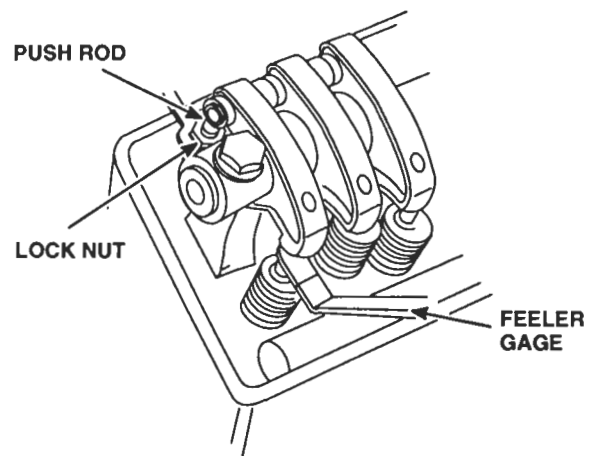

Figure 1. Adjusting Valve Clearance on Two Valve Head
4. Loosen the exhaust valve rocker arm push rod locknut. Place a .012 inch feeler gage (J 9708-01) between the end of the exhaust valve stem and the rocker arm (Figure 1.) Adjust the push rod to obtain a smooth “pull” on the feeler gage.